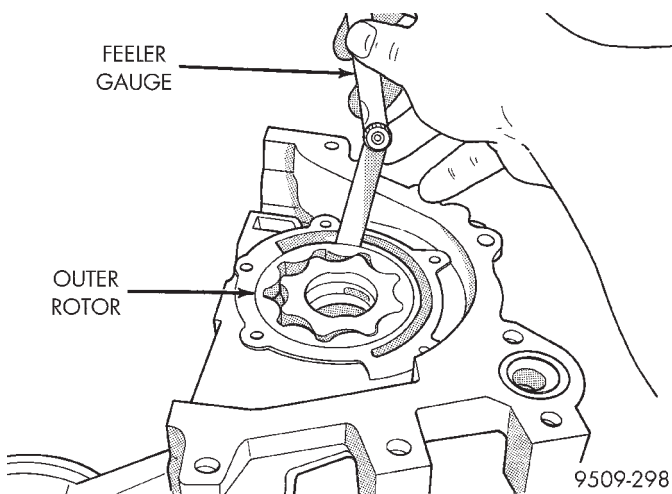

Fig. 96 Measuring Outer Rotor Clearance in Housing
(5) Slide outer rotor into pump housing, press to one side with fingers and measure clearance between rotor and housing (Fig. 96). If measurement is 0.39